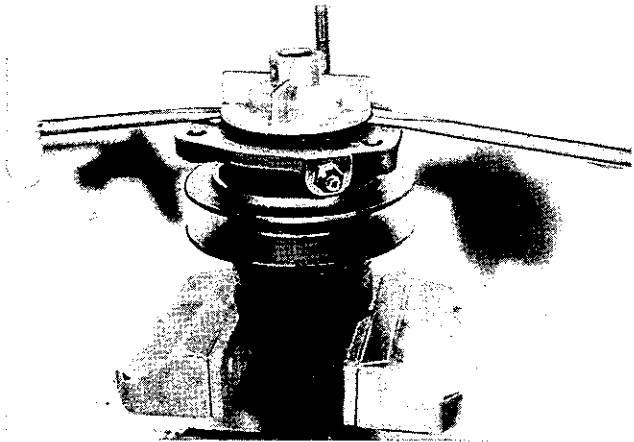

Fig. 7. Levering rotor off spindle.
3. Withdraw Rotor securing pin and lever this off the pump spindle. (See Fig. 7.)